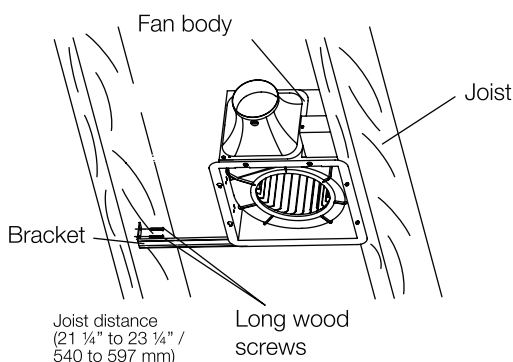
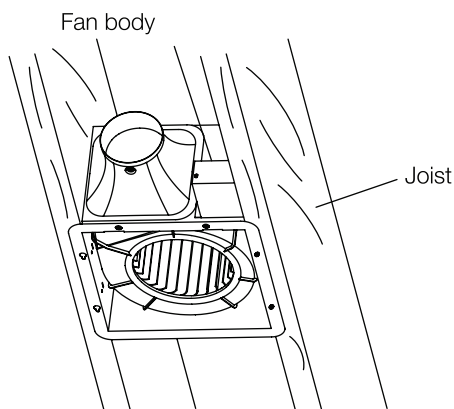

Fig. 2-1
Fig. 2-2
2. Mount the fan body to joist using the suspension brackets and long wood screws (Fig. 2-1 or Fig. 2-2 and 2-3).